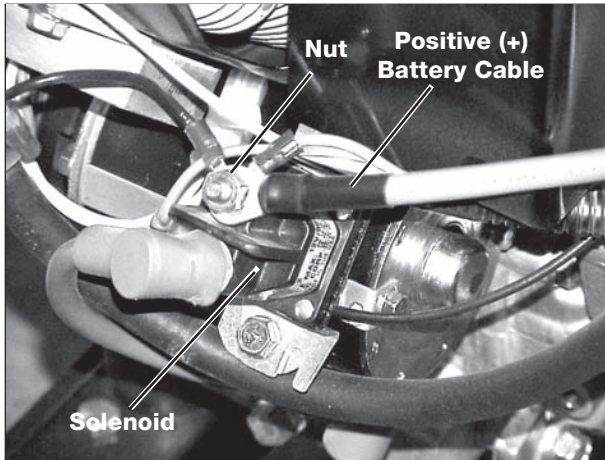

Figure 5
- Remove the nut from the solenoid post and place one end of the positive (red) battery cable onto the post. Reassemble nut and tighten securely. See Figures 5.